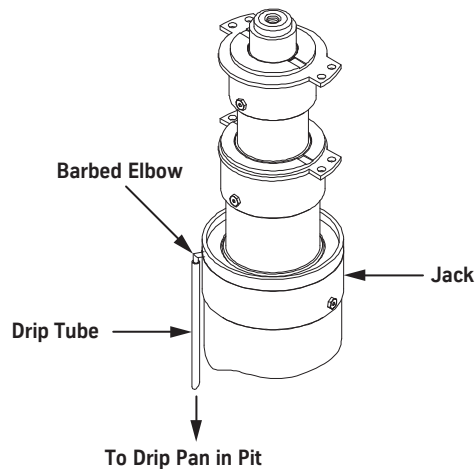

Figure 70 - Drip Tube Installation
1. Install the drip tube on the barbed elbow (located on the packing head), and run the tube to a drip pan in the pit. See Figure 70.